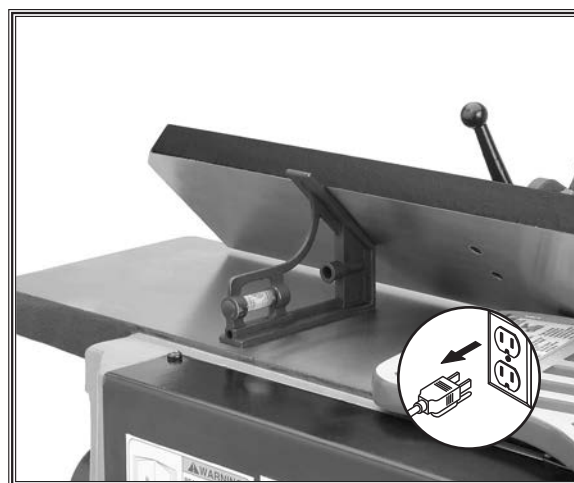

Figure 45. Checking the inward 45° stop.
4. Use a combination square to check the angle of the fence, as shown in **Figure 45**.